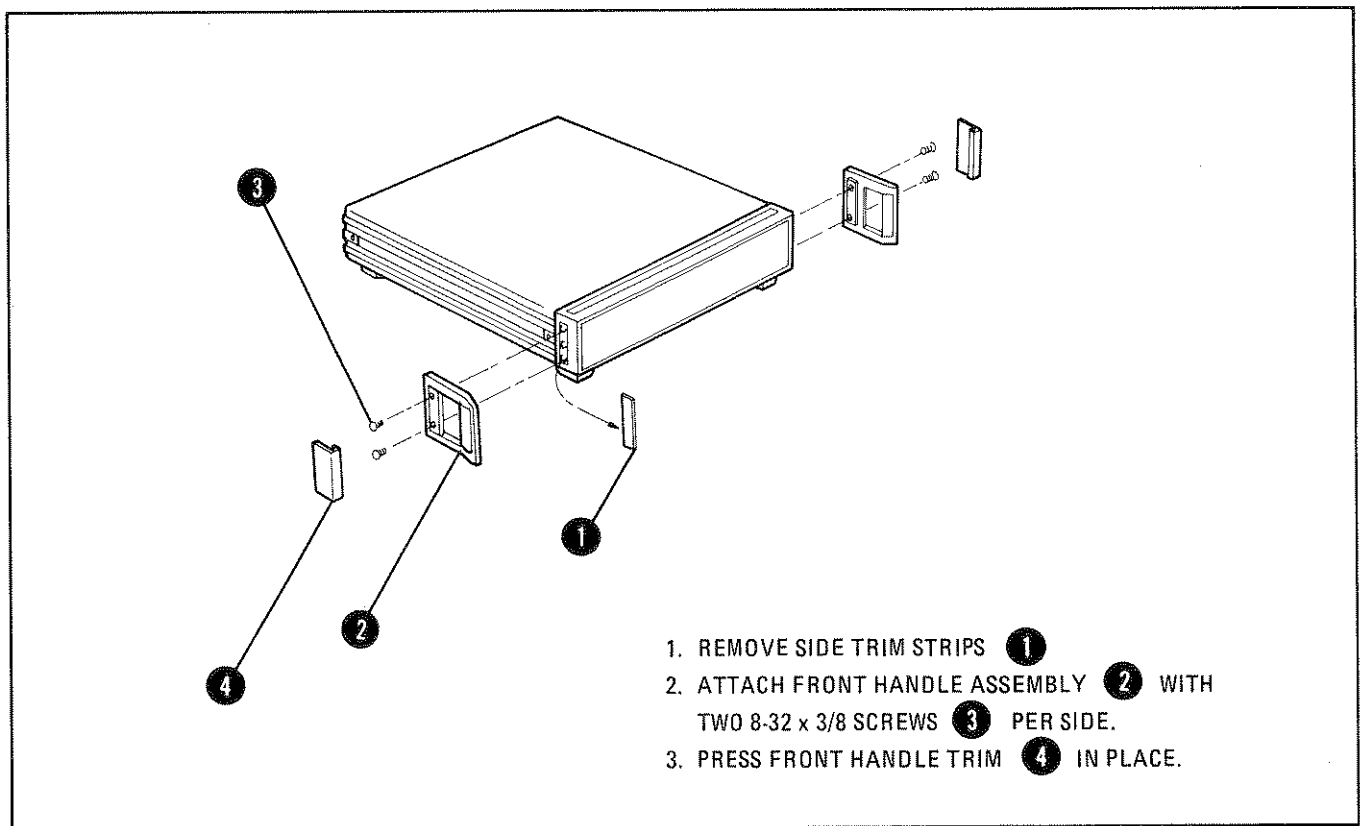

Figure 2-6. Installation of Front Handles
- 2-22. Instruments are shipped with a Front Handle Kit which supplies necessary hardware, with installation instructions, for mounting front handles on the instrument. Installation instructions are also given in Figure 2-6.